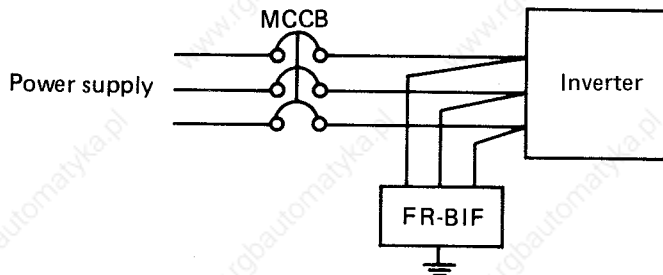

Fig. 11.2
- (a) Connect the radio noise filter exclusively used for FREQROL (FR-BIF) to the inverter input power supply terminals (R, S, T phases), and positively ground the grounding wire. This is effective when the wiring distance between inverter and motor is short. (Fig. 11.2)